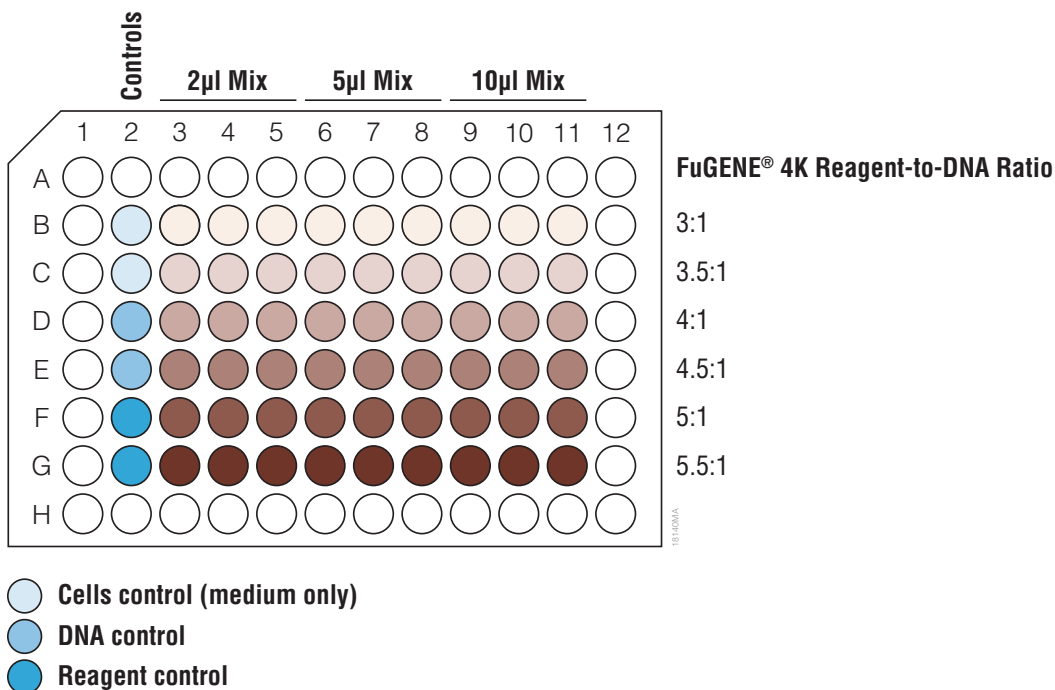

Figure 2. Plate layout for transfection optimization.
- Briefly vortex or mix the FuGENE® 4K Transfection Reagent-DNA complex. Add 2–10µl of complex per well to a 96-well plate containing 100µl of cells in growth medium (see Figure 2 for an example plate layout). Mix by pipetting or using a plate shaker for 10–30 seconds. Return plates to the incubator. For many reporter systems (luciferase, CAT, β-galactosidase, etc.) a 24- to 48-hour incubation is sufficient.